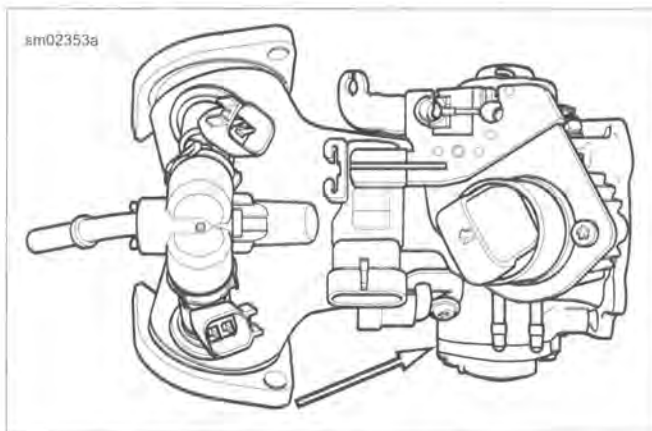

Figure 4-10. Throttle Position Sensor
4. See Figure 4-10. Disconnect TP sensor connector [88].